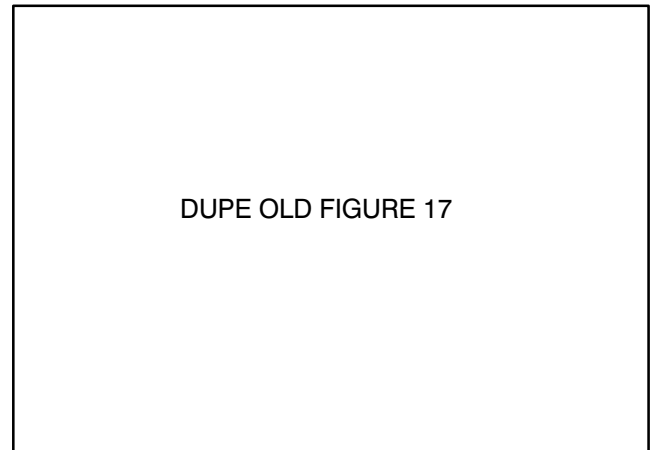

Figure 17
2. Unscrew dipstick cap (Fig. 17) from the filler neck and wipe it with a clean rag. Screw dipstick cap fingertight onto filler neck. Unscrew the dipstick and check level of oil. If level is not within 1/2 inch (13 mm) from the groove in the dipstick, add enough oil to raise level to groove mark. **DO NOT OVERFILL** by more than 1/2 inch (13 mm) above groove.